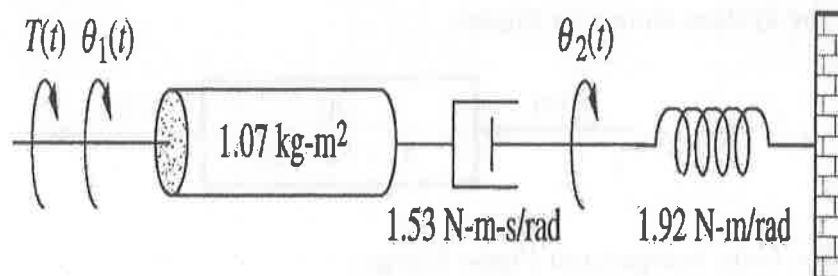

Fig. 12a
12. (a) For the system shown in Figure 12a, a step torque is applied at  $\theta_1(t)$ .